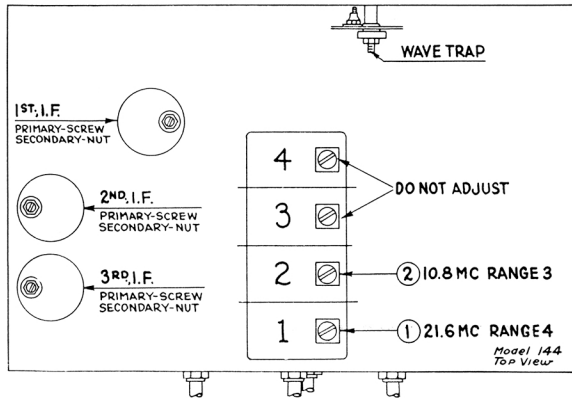

Fig. 25
Do not attempt to adjust the compensating condensers mounted upon sections numbered 3 and 4 of the Tuning Condenser Assembly (Fig. 25). These have been adjusted, and sealed, at the factory.
2. Replace the grid clip upon the Detector-Oscillator tube (Type 6A7). Connect the output leads from the signal generator directly to the antenna and ground terminals of the receiver. Set the Wave-Band Switch of the receiver to the standard broadcast band (extreme left) and the Station Selector at the low frequency (520 K.C.) end. Adjust the Wave Trap condenser to give MINIMUM response to a 460 K.C. signal from the signal generator. The Wave Trap is located at rear and underneath the chassis, and is shown in Figure 25. It is reached from the rear of the chassis.
Connect an output meter as explained on page 2. Set the signal generator at 460 K.C. (the intermediate frequency of Model 144) and adjust each of the I.F. compensating condensers in turn, to give maximum response in the output of the receiver. The location of the I.F. compensating condensers is shown in Figure 25. Each of the I.F. transformers has a dual compensating condenser mounted at its top, and accessible through a hole in the top of the coil shield. In the dual compensators, the Primary circuit is adjusted by turning the screw; the Secondary circuit is adjusted by turning the hex-head nut.